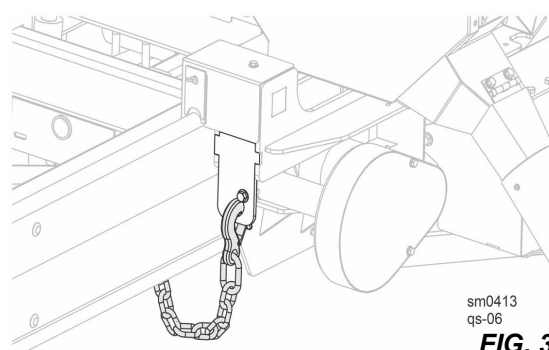

FIG. 3-5
2. Unhook the carriage safety chain, located at the bottom of the vertical mast. See FIG. 3-5.